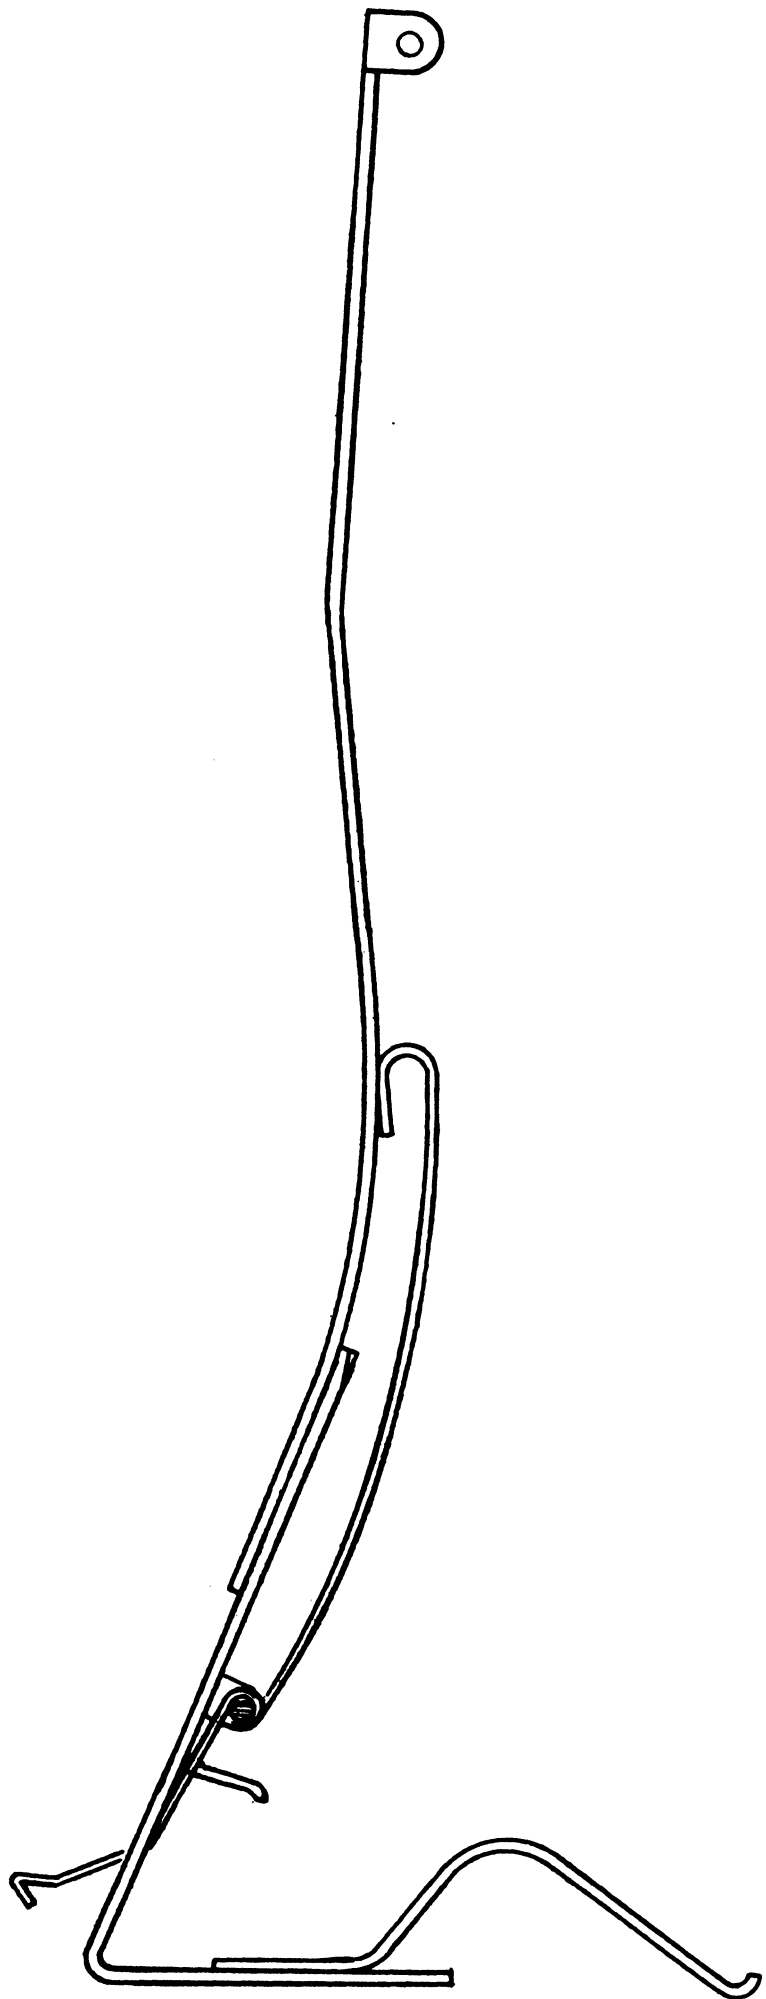

Figure 5-2. 51-80 Radial Card Guide Profile
4. Form the stacker radial card guide to match the profile shown in Figure 5-2.